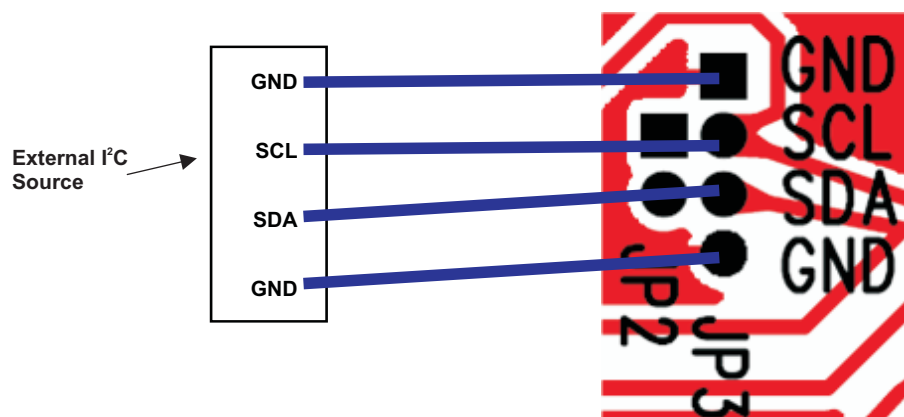

Figure 6. Connect I²C Controls to JP3
1. Install shunts in jumpers JP4, JP5, and JP6. Remove shunts in JP2 and JP3 and connect I²C controls to JP3 as shown in Figure 6.